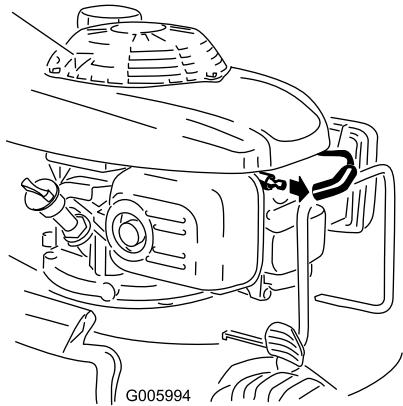

Figure 36
- Disconnect the spark plug wire from the spark plug (Figure 36) before performing any maintenance procedure.
2. Disconnect the wire from the spark plug (Figure 36).